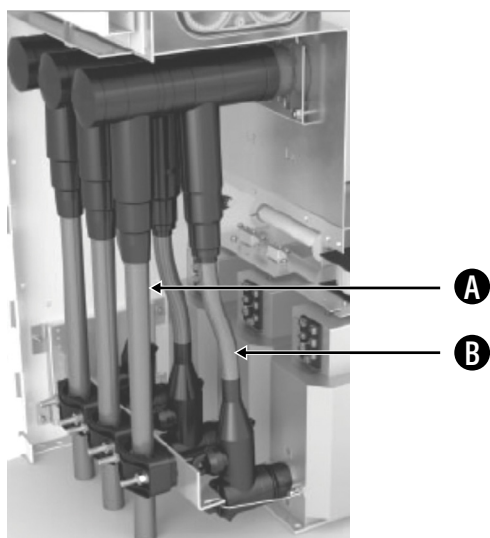

Figure 3-10: Cable connection cone
1. VT is connected directly to the cable cone, factory assembled; see figure 3-10.